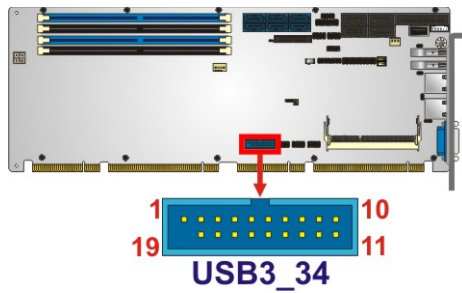

Figure 3-30: USB 3.0 Connector Location
- CN Location:** See **Figure 3-30**